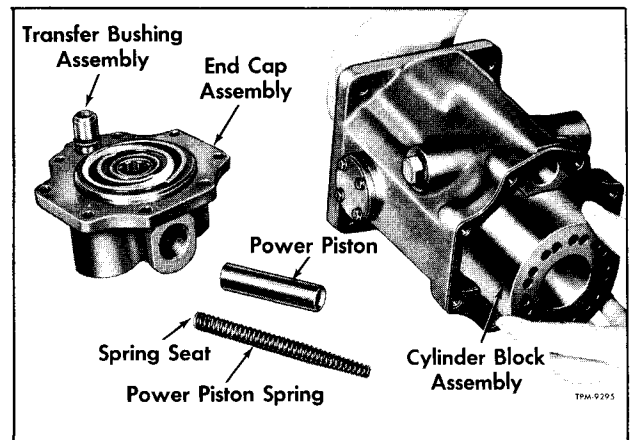

Figure 44—Replacing Pump Cylinder Block
7. Pour a small amount of solvent or kerosene into pump housing to break the hydrostatic seal on slipper heads of pistons (14).
8. While holding cylinder block from sliding out of housing, tip housing to drain off excess fluid. Place the pump horizontally on work bench. Turn the cylinder block (13) carefully out, then remove from housing as shown in figure 44.